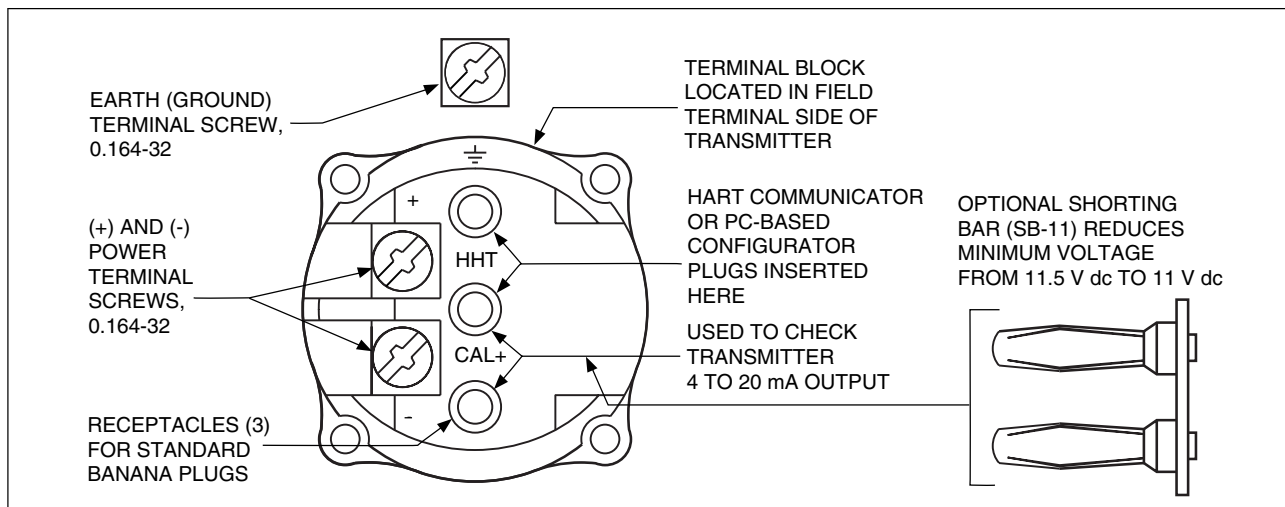

Figure 23. Field Terminal Block
- (e) 11.5 V dc can be reduced to 11 V dc by using a plug-in shorting bar; see “Supply Voltage Requirements” section and Figure 23.
Field and RTD sensor wires enter through 1/2 NPT, PG 13.5, or M20 threaded entrances, as specified, on either side of the electronics housing. Wires terminate under screw terminals and washers on terminal block in the field terminal compartment. Unused entrance is plugged to insure moisture and RFI/EMI protection. See Figure 23.